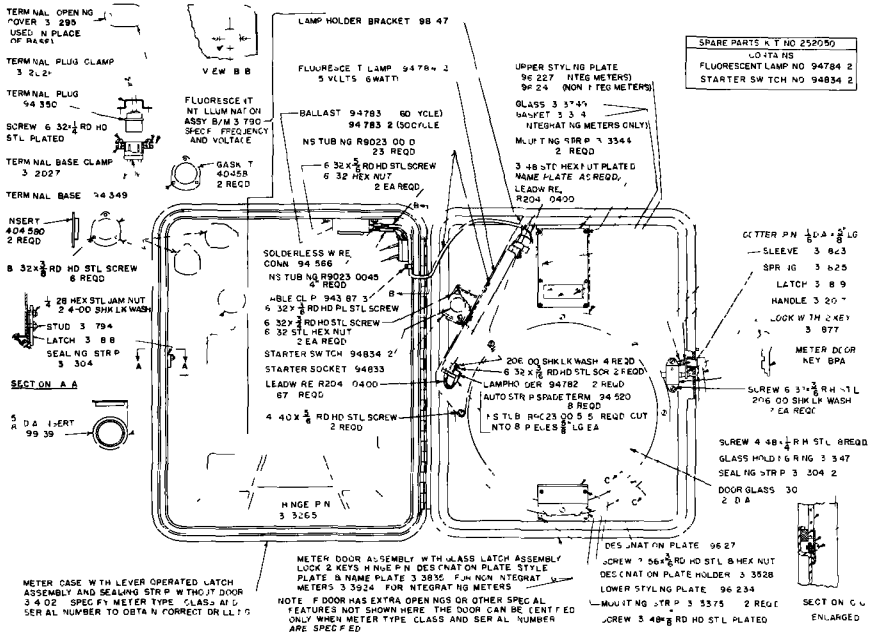

FIGURE 8 Parts Drawing G99-5, Rectangular Case Assembly
2. Insert starter in receptacle provided in lamp socket (Figure 8). Securely place lamp in holder. If lamp starts slowly, reverse starter poles.